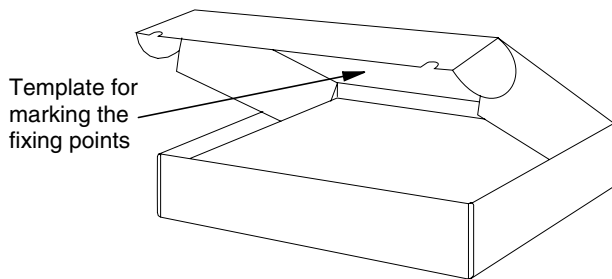

Figure 4. Template inside the BTS package
- Figure 4. Template inside the BTS package **15**